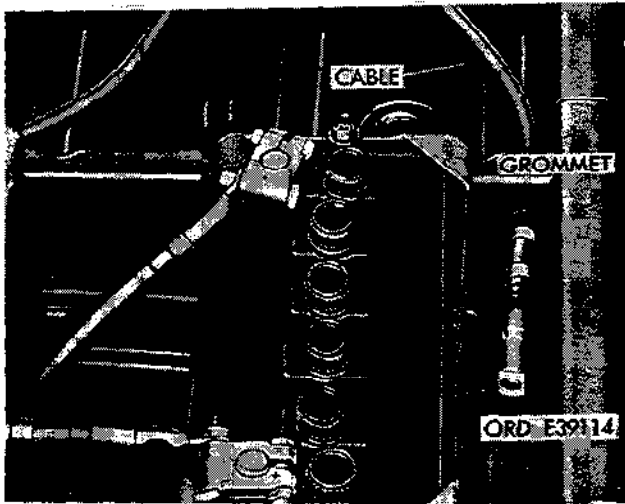

Figure 2-189. Thread cable out of grommet.
(10) Thread cable out of grommet at battery compartment (fig. 2-189).
(11) Thread cable out of grommet at both sides of transmission tunnel (M151 only).